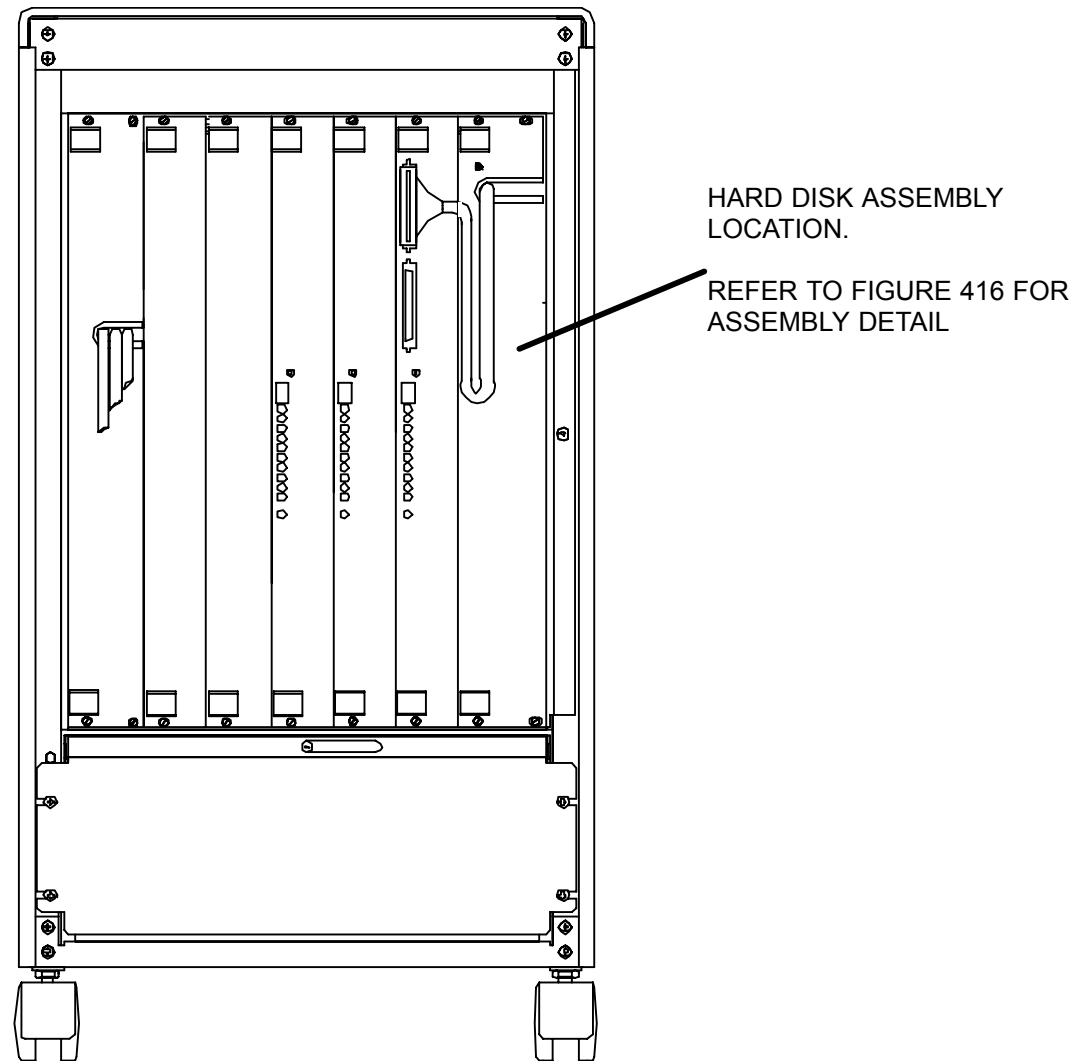
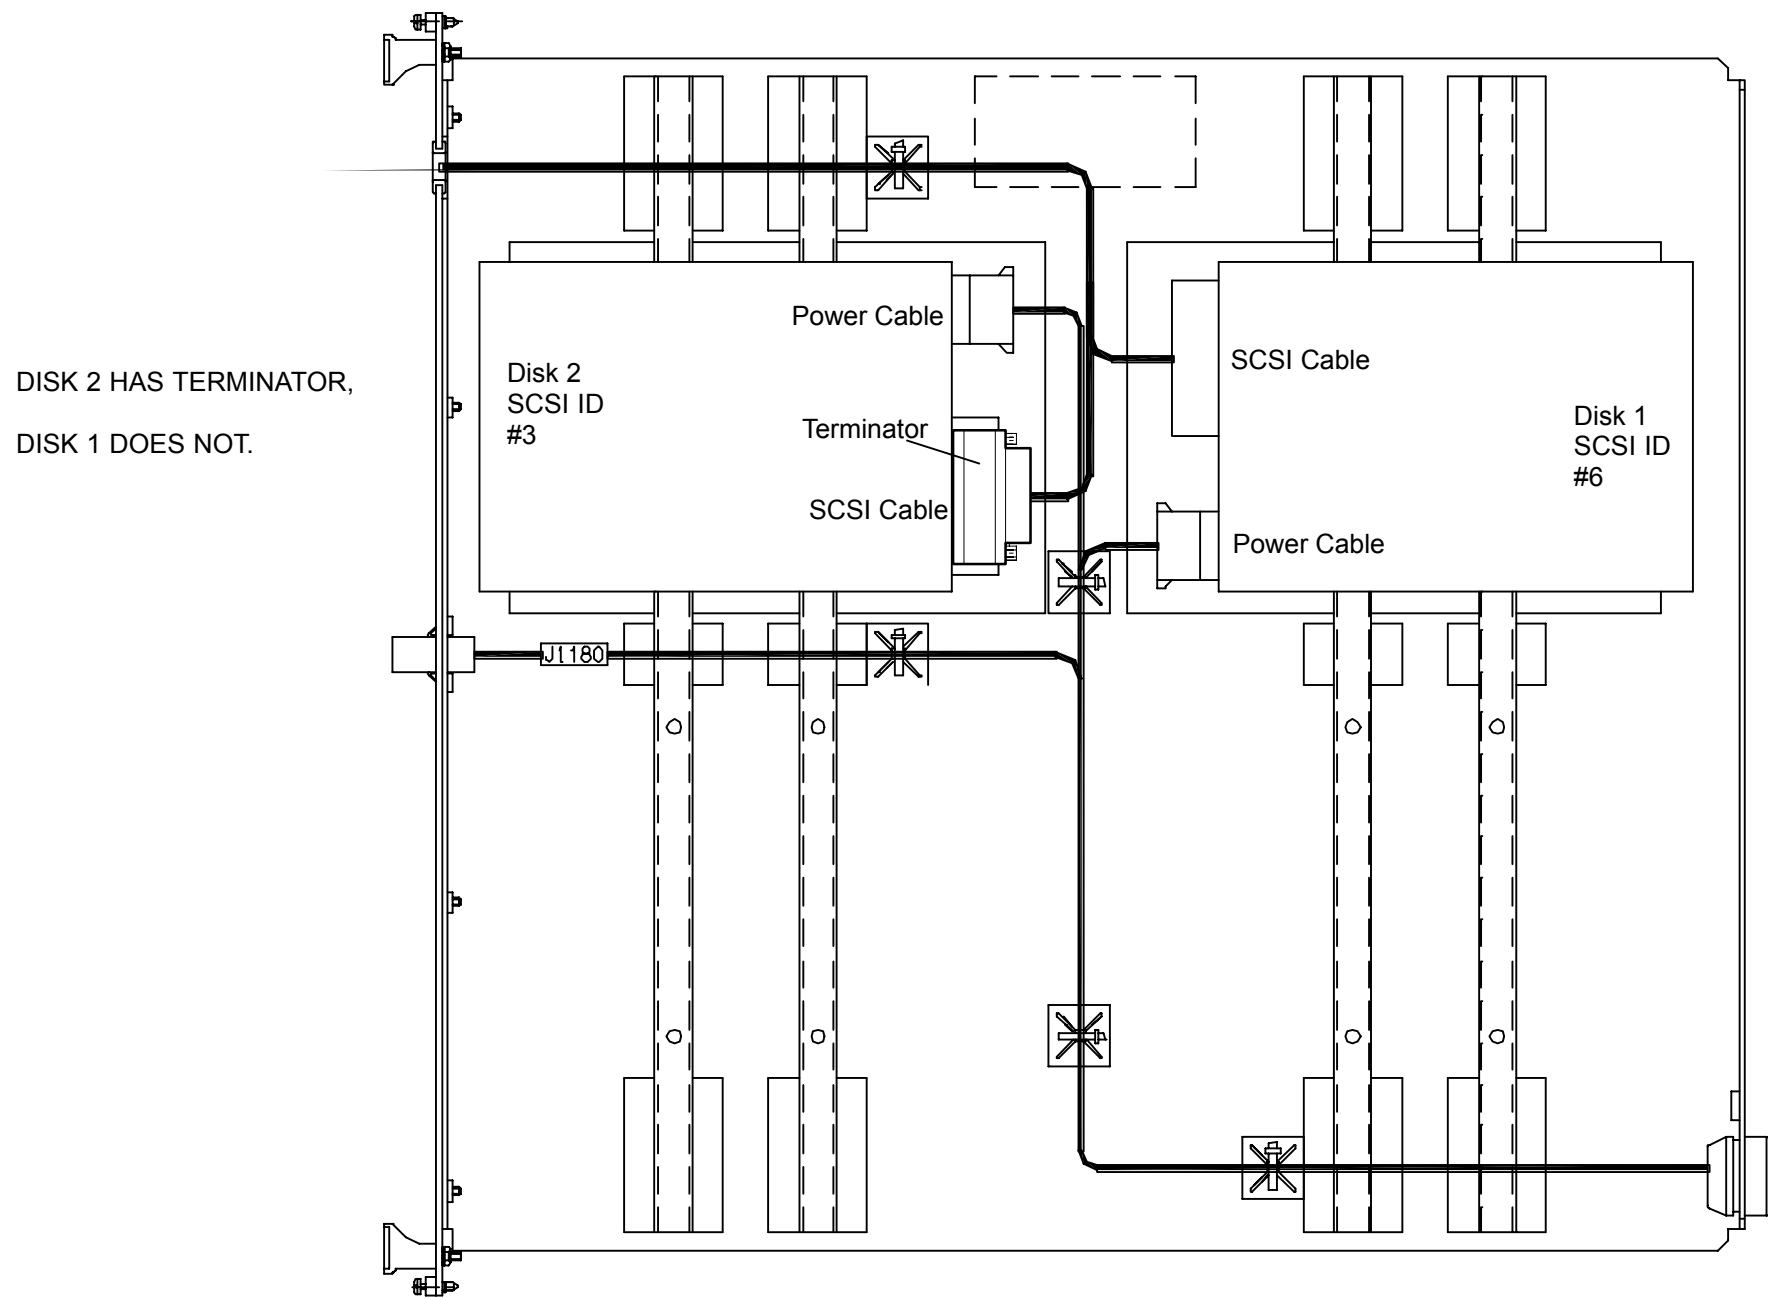

FIGURE 415 ACQIMAGE CABINET HARD DISK DRIVE ASSEMBLY LOCATION
FIGURE 416 LOCATION OF ACQIMAGE DRIVES ON REMOVABLE BOARD
The AcQImage cabinet contains two SCSI disk drives for storage of scan data. The two disk drives are contained on a single board that is located on the right side (front view) of the AcQImage Cabinet card rack. Refer to Figure 415 and Figure 416.
3. Remove the internal front steel panel by removing the six screws. The hard disk assembly is located on the far right side of the card cage. Refer to Figure 415.
5. Loosen the 4 captive screws that secure the hard disk drive assembly in place. Grasp the handles and slide the assembly out part way. Refer to Figure 415.
6. Disconnect the power and SCSI connectors from the drive. Refer to Figure 416.